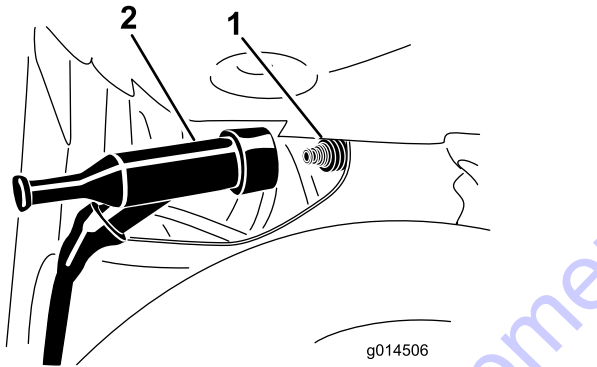
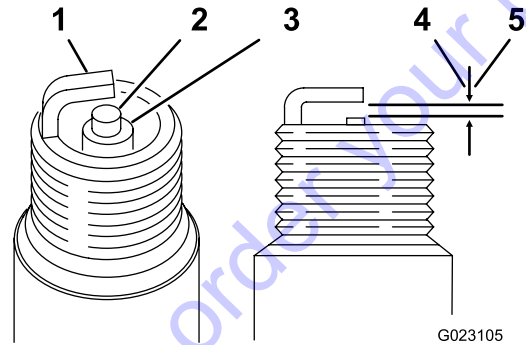

Figure 23
Figure 24
2. Disconnect the wire from the spark plug (Figure 23).
1. Look at the center of the spark plug (Figure 24). If you see light brown or gray on the insulator, the engine is operating properly. A black coating on the insulator usually means that the air cleaner is dirty.
2. Check the gap between the center and side electrodes (Figure 24).
10. Remove the spark plug and check the condition; refer to Figure 23 and Figure 24.